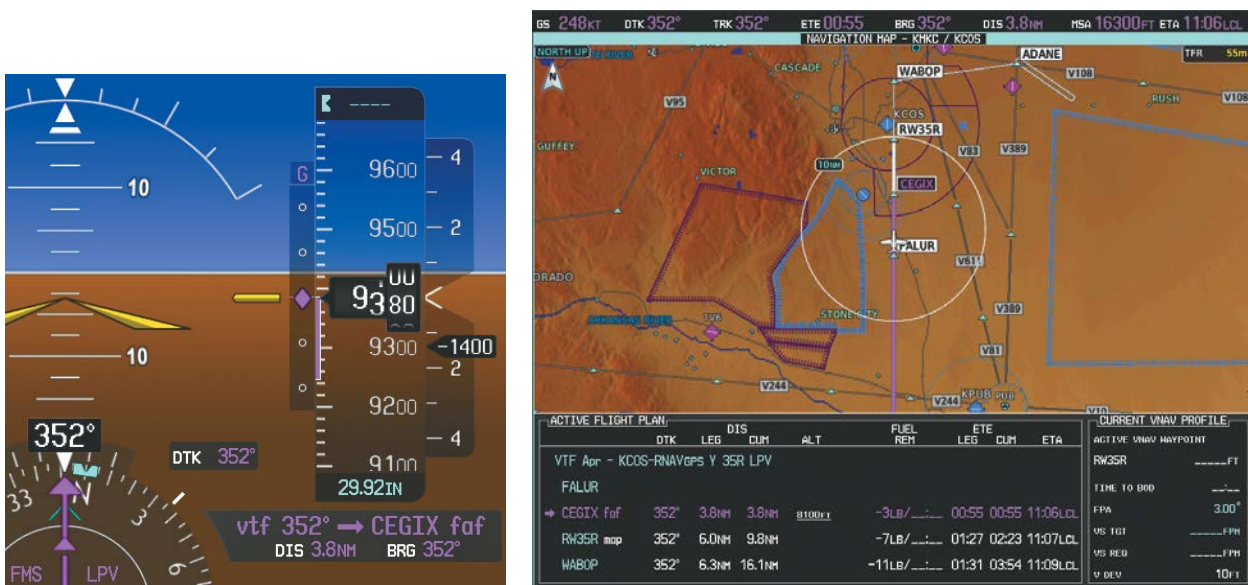

Figure 5-191 Vectors To Final Approach is Now Active
c) The active leg is now the established course direct to CEGIX faf (see Figure 5-191). The flight phase changes to LPV on the HSI indicating the current phase of flight is in Approach Mode and the approach type is LPV. CDI scaling changes accordingly and is used much like a localizer when flying an ILS approach. The RVSI is no longer displayed and the VDI changes to the Glidepath Indicator (as shown in Figure 5-190) when the final approach course becomes active.
The descent continues through the FAF (CEGIX) using the Glidepath Indicator, as one would use a glideslope indicator, to obtain an altitude "AT" 8,100 feet at the FAF. Note the altitude restriction lines over and under (At) the altitude in the 'ALT' field in Figure 5-191.